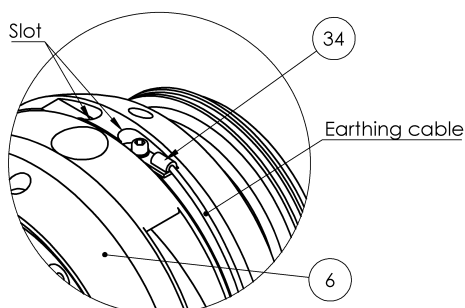

Fig. 31
- Screw the cable connector (34) into the slot available on the top of the shell (Fig. 31).